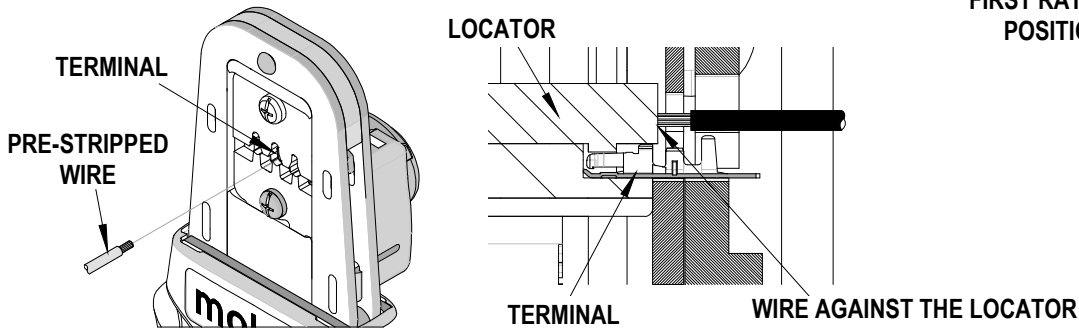

Figure 5
- Insert the properly stripped wire through the terminal and against the locator. See Figure 5.